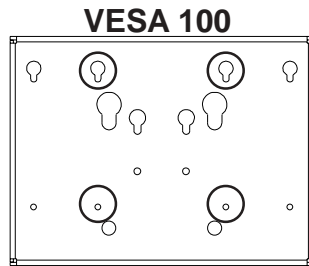

fig. 7.1
- 7** Find the VESA® hole pattern as shown in figures 7.1 and 7.2, and attach screen to mounting plate as specified below. Verify that all holes are properly aligned, and then tighten screws. If using security screws, tighten using security allen wrench (**M**).